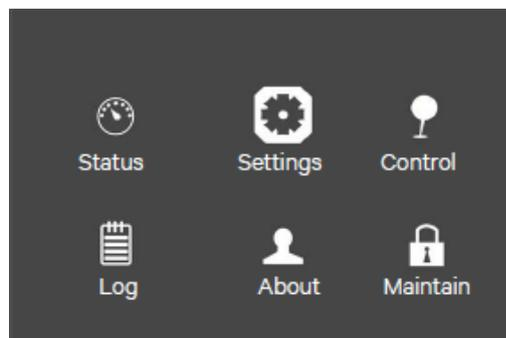

Figure 2-6 Main menu screen
4. After setting corresponding parameters, press the power button for two seconds, and the LCD prompts a dialogue box shown in Figure 2-6.